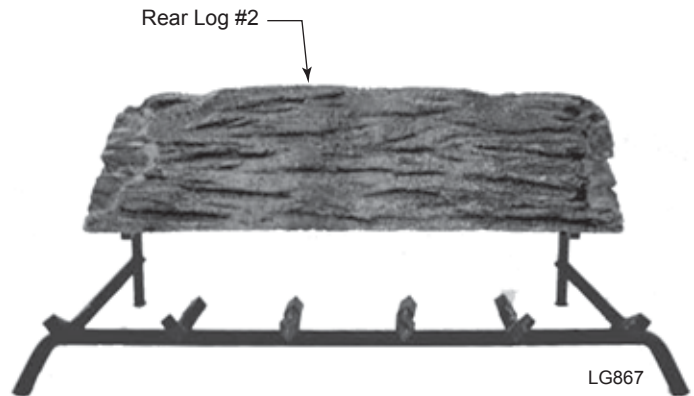

**Figure 49 -
1. Place Back Log #2 on grate bars on back of grate. *Figure 49*